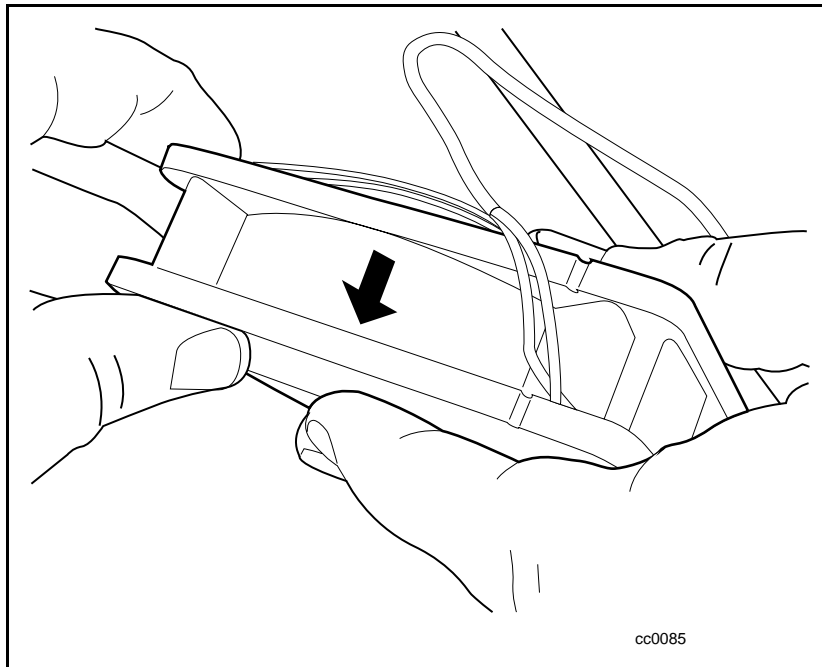

Figure 5-15. Replacing the fan assembly
1. Place the new fan in the Library with fan flow down as indicated by the arrows molded into the fan housing (see Figure 5-15).